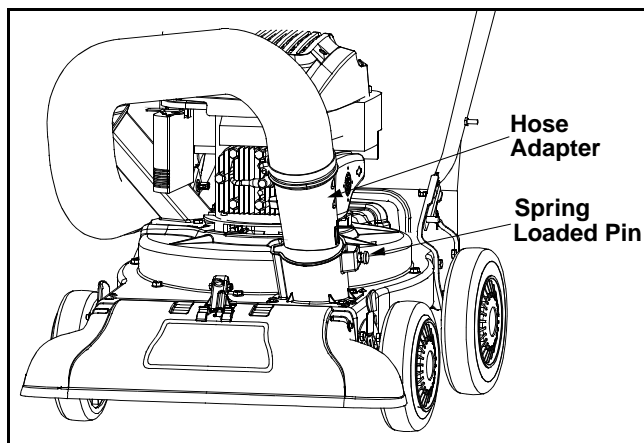

Figure 3
- Slide hose adapter of hose assembly into the base adapter located on the left front of the Yard Vacuum. See Figure 3.